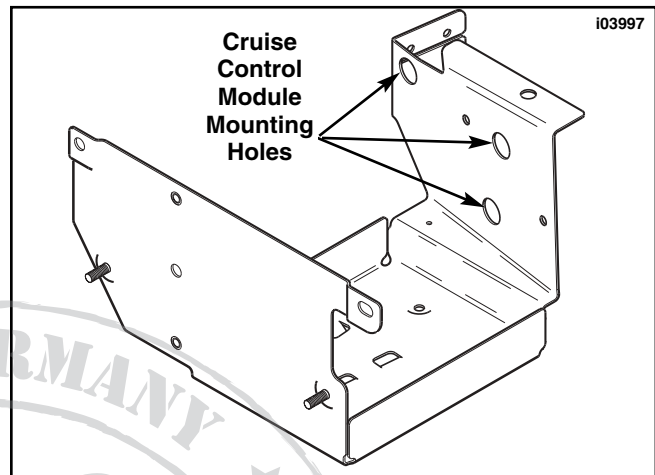

Figure 1. Battery Box (Right Side View)
4. See Figure 1. In battery box, identify the location of the three mounting holes (on left side of panel) for mounting the cruise control module.
5. See Service Parts Illustration. Obtain the Cruise Control Module (1) with cruise cable attached and three Grommets (5) from kit. Install the grommets on studs of cruise control module, with small diameters outward.